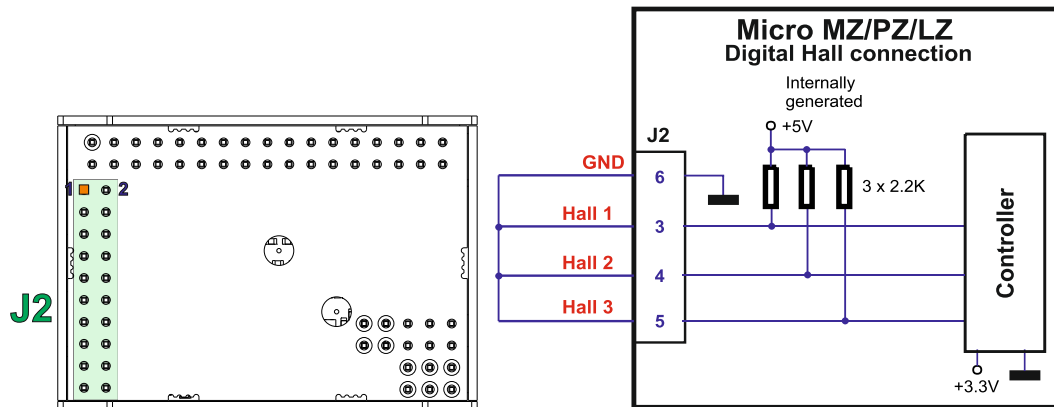
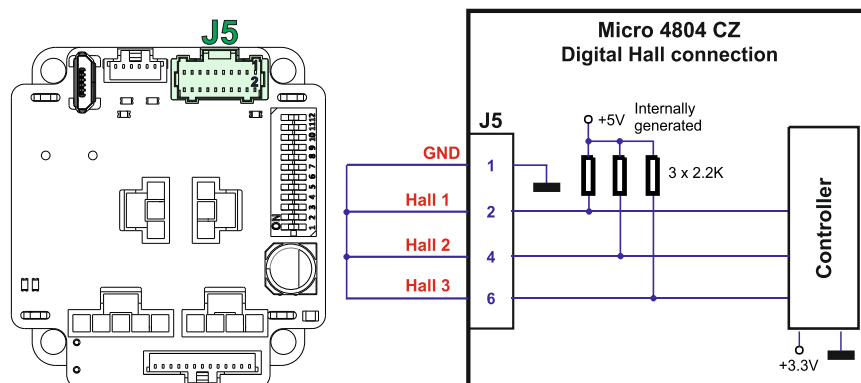

Figure 3-76 Temporary connection during power-on to invalidate the Setup table for Micro MZ/PZ/LZ
Figure 3-77 Temporary connection during power-on to invalidate the Setup table for Micro 4804 CZ
- Hardware2 – by temporary connecting all digital Hall inputs to GND, during the power-on for about 1 second, until the green LED is turned on, as shown in Figure 3-76 and Figure 3-77. This option is particularly useful when it is not possible to communicate with the drive.